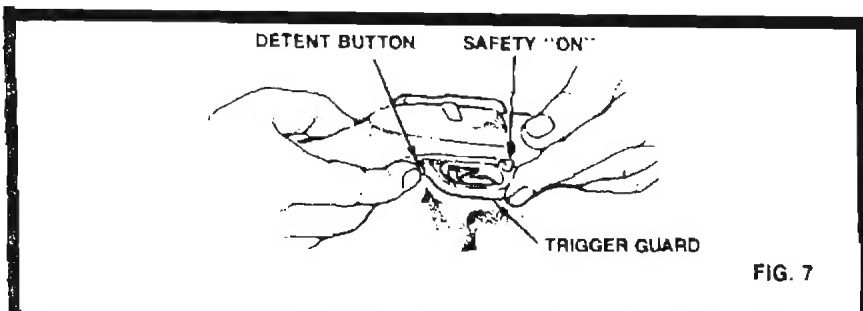

FIG. 7
- (C) Remove clip.
- (D) With thumb or finger, depress the detent button.
- (E) Tap the trigger guard rearward and pull down to remove the housing from the receiver (see Fig. 7 & 8).